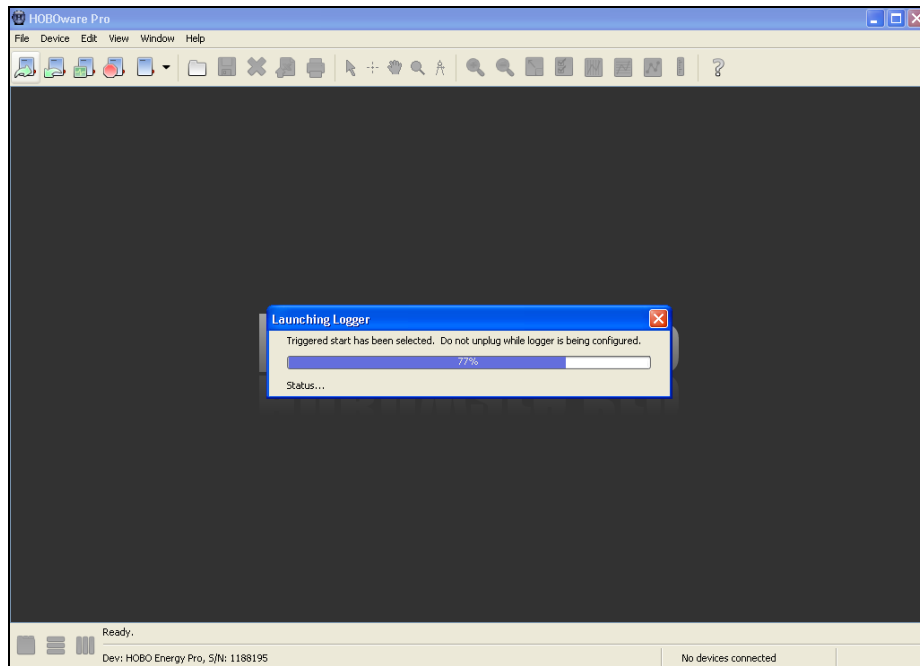

Figure 5. Configuring the Data Logger with the New Logging Interval
6. After you hit the 'Launch' button, the Data Logger will be configured with the new logging interval as seen in Figure 5.